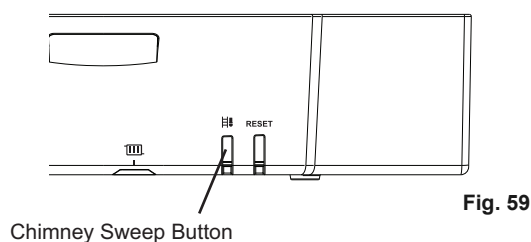

Fig. 59
1. The maximum rate CO₂ setting can only be reached via the minimum rate. Press the Chimney Sweep (Fig. 59) button for approximately 3 seconds. The status signal for the Chimney Sweep button is orange and flashes green briefly to show that the minimum rate is selected.